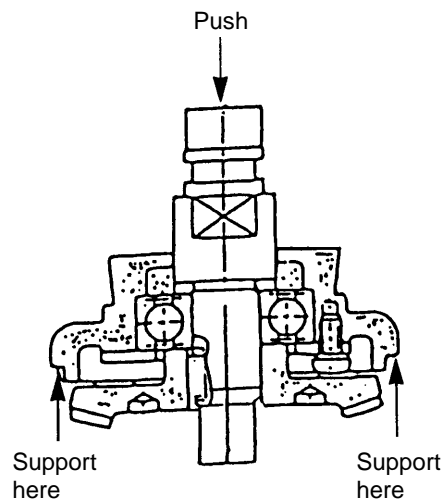
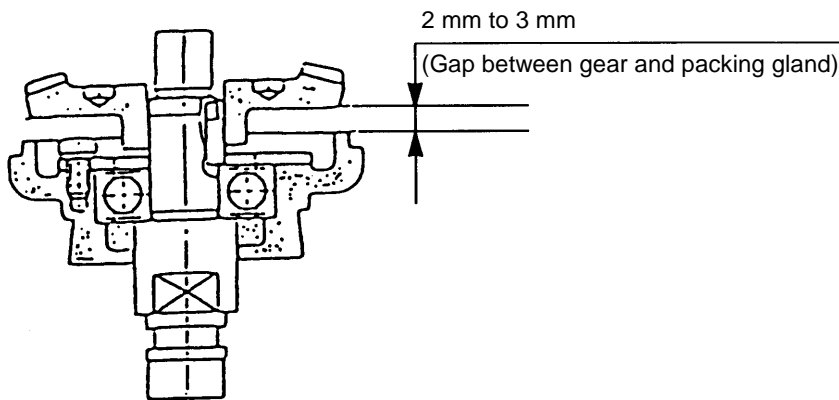

Fig. 6
Fig. 7
- (b) Turn the Packing Gland [27] over, support it as shown in Fig. 6, and push Spindle (A) or (B) [30] downward approximately 2 mm. In this way, you can expand the gap between the Gear [21] and Packing Gland [27] as shown in Fig. 7.